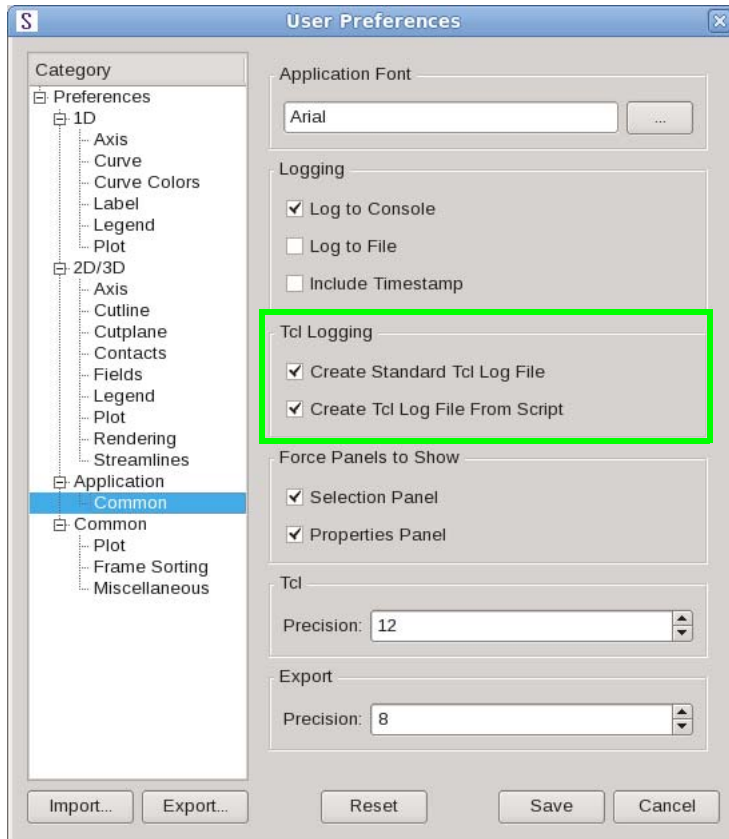

Figure 16 User Preferences dialog box showing options for Tcl log files
2. In the User Preferences dialog box, expand **Application > Common** (see Figure 16 on page 35).